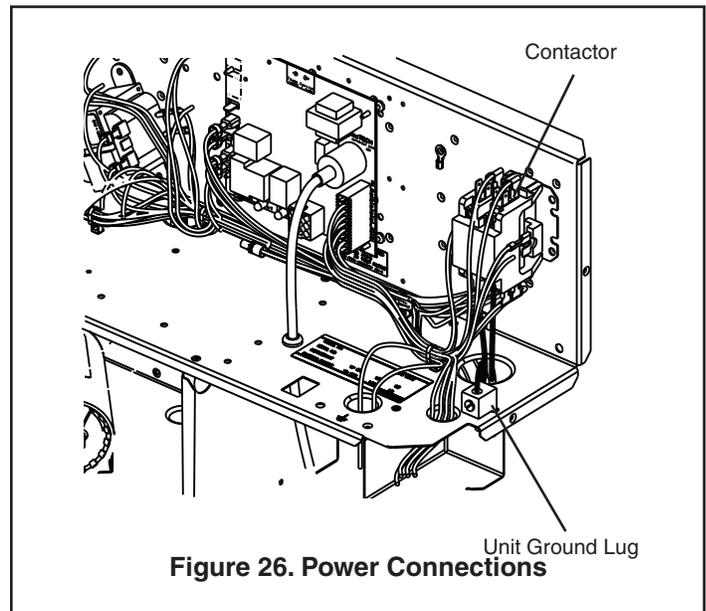

Figure 26. Power Connections
2. Connect the high voltage wires to the appropriate contactor terminals. Single phase units use a two (2) pole contactor and three phase units use three (3) pole contactor. Connect the ground to the ground lug on the chassis. See Figure 26.